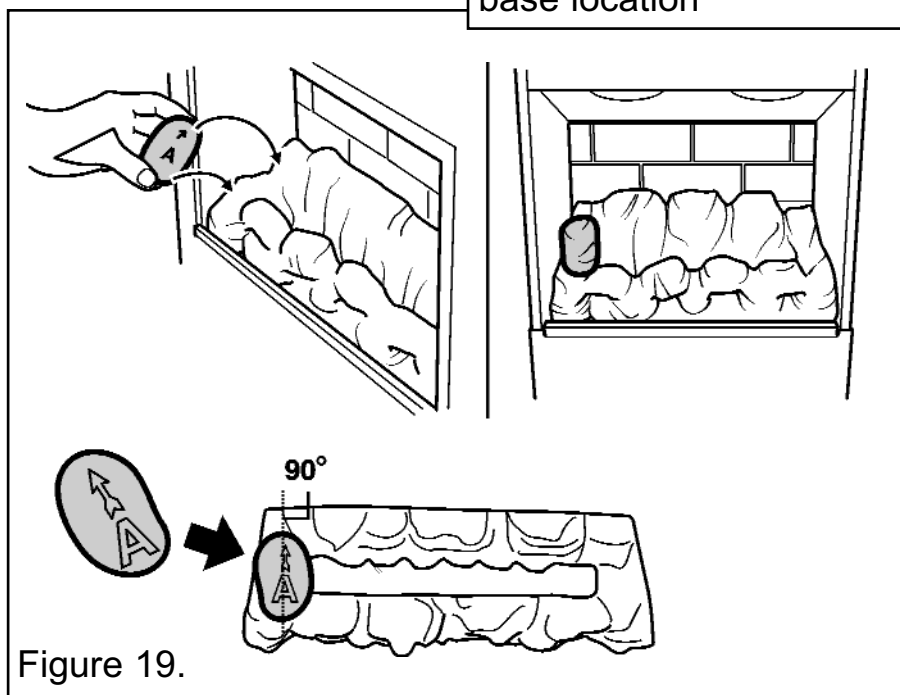

Figure 19.
**2.** Hold coal 'A' upright with the arrow pointing to the top. Locate coal 'A' as shown in figure 19.